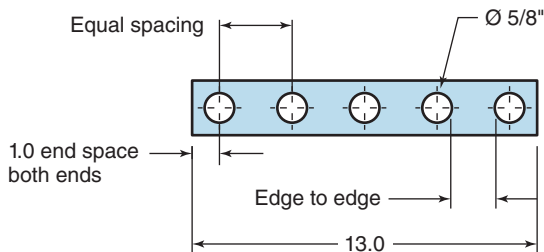

Figure 2-7 Problem 4.
4. You need to drill and ream a series of holes in a metal bar per the drawing in Fig. 2-7. There is an initial 1.0 in. from the edge to the center of the first hole (called *edge* or *end spacing*) on both ends. Then the five holes are equally spaced within the remaining distance. All holes are $\frac{5}{8}$ in. in diameter.